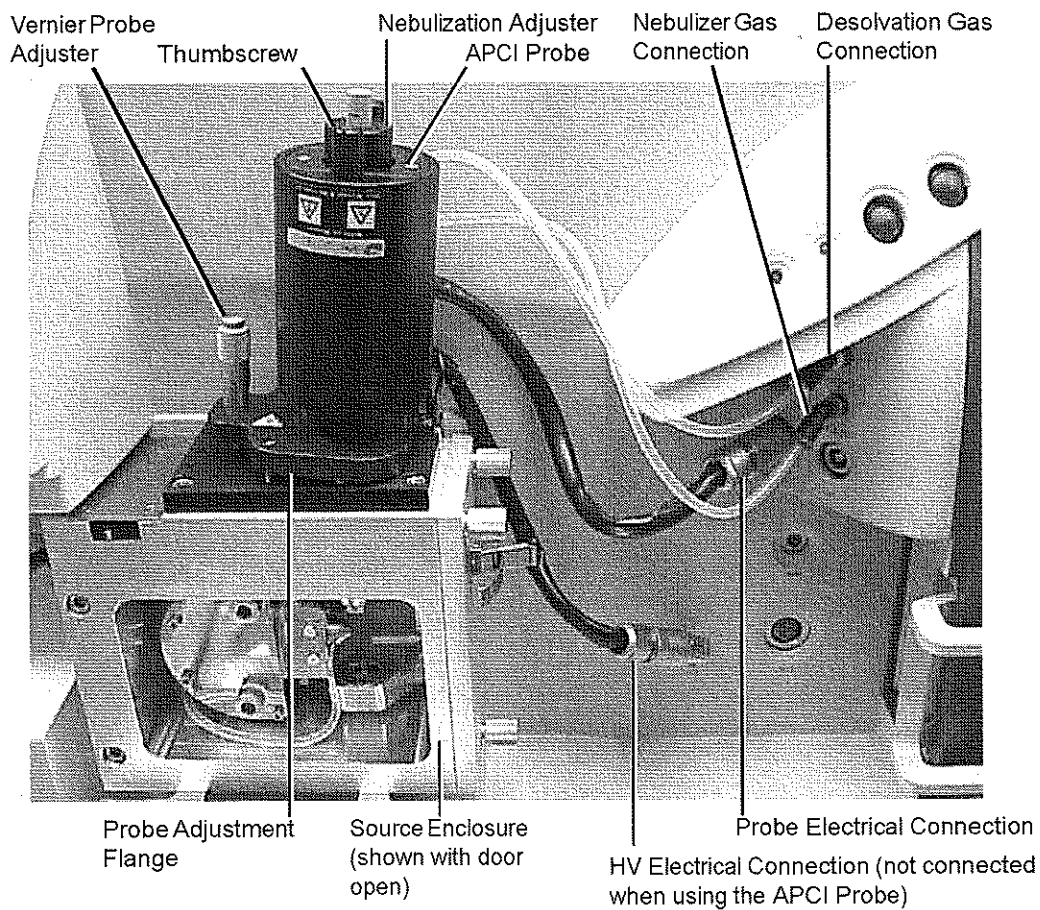

Figure 3-2 APCI Probe Mounted on the Source Enclosure
3. Secure the probe by tightening the two thumbscrews (Figure 3-2).
22. Starting with the probe tip midway between the cone and the end of the corona pin, use the vernier probe adjuster (see Figure 3-2) to maximize the displayed peak intensity.
24. Use the nebulization adjuster on the probe (see Figure 3-2) to give the best displayed peak intensity and stability.
27. Starting from a value of 15, increase the Cone (V) voltage in increments of 5. Set the cone voltage to the value giving the highest displayed peak intensity. Record this value.
28. Starting from a value of 0, increase the Extractor (V) voltage in increments of 1. Set the extractor voltage to the value giving the highest displayed peak intensity.
29. Adjust the RF Lens (V) voltage to the minimum value that maintains the highest peak intensity, without loss of resolution.